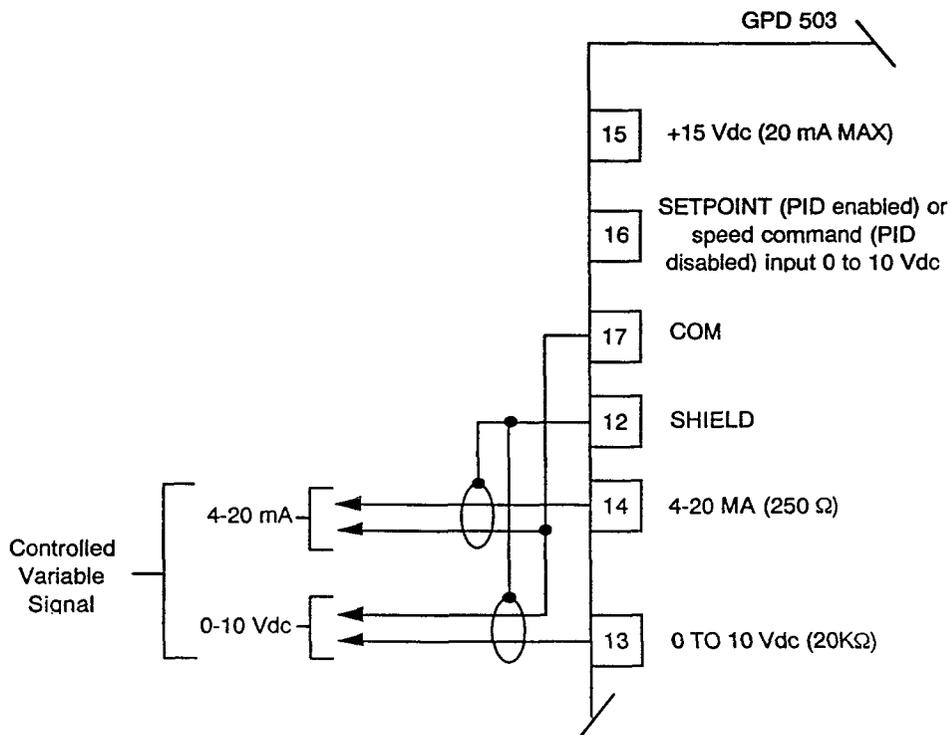

Figure 4. Transducer Wiring For PID Function
3. Determine the output range of the transducer being used. For example, let's say the range is 0 to 10 Vdc. In this case, connect the positive output lead of the transducer to Terminal 13, and the COMMON output lead to Terminal 17 of the drive. See Figure 4.
Note: As an alternative, the drive will also accept an external SETPOINT signal (0 to 10 Vdc) at terminal 16. See Figure 4 on page 9. To enable this function, the value in constant Sn-04 must be changed from 0011 to 0010.)